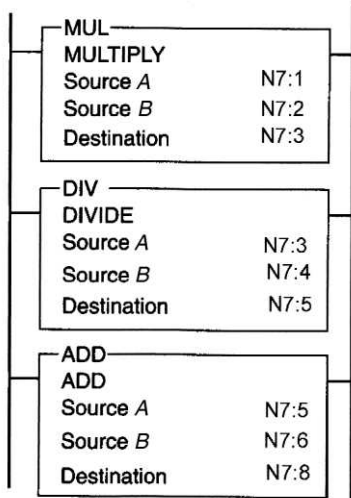

Figure 11-23 Program for question 15.
15. For the program of Figure 11-23, assume the value of the numbers stored in words N7:1, N7:2, N7:4, and N7:6, are 40, 9, 5, and 32, respectively. As a result, the value of the number stored in N7:3 is (a) _____, in N7:5 is (b) _____, and in N7:8 is (c) _____.